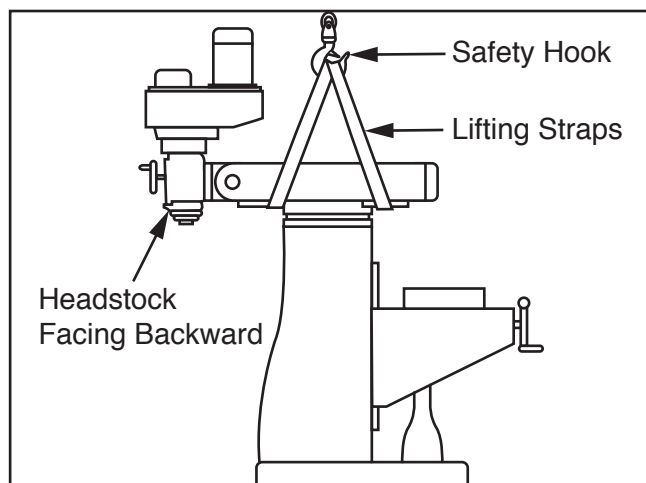

Figure 14. Illustrated example of using lifting straps to move the mill.
2. Rotate ram 180° so headstock is facing backwards (see **Figure 14**), then rotate head upright.
3. Place lifting straps under ram and connect them to safety hook, as illustrated in **Figure 14**.